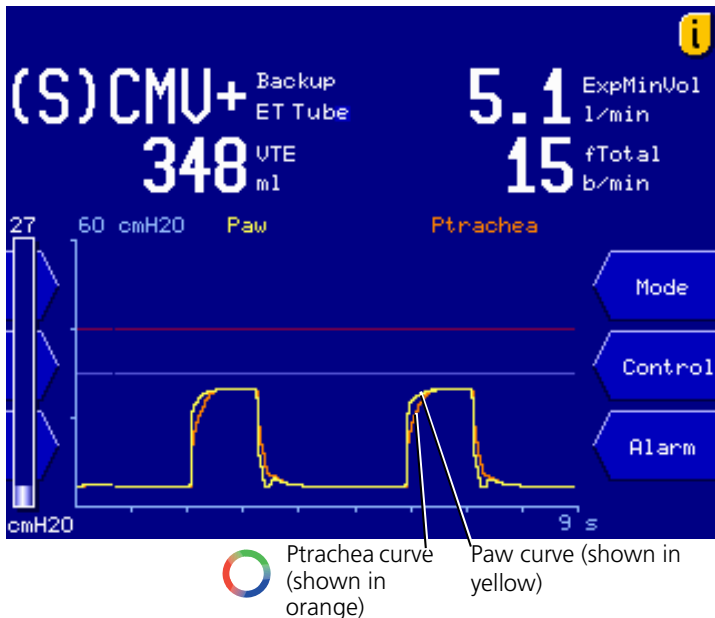

Figure 4-8. P-trachea and P-aw curves (with TRC active)
- c. Select and activate the **ET Tube** (endotracheal tube) or **Trach Tube** (tracheostomy tube) setting. The tracheal pressure curve will also be shown with the airway pressure curve, and the tube type will be shown at the top of the screen (Figure 4-8).